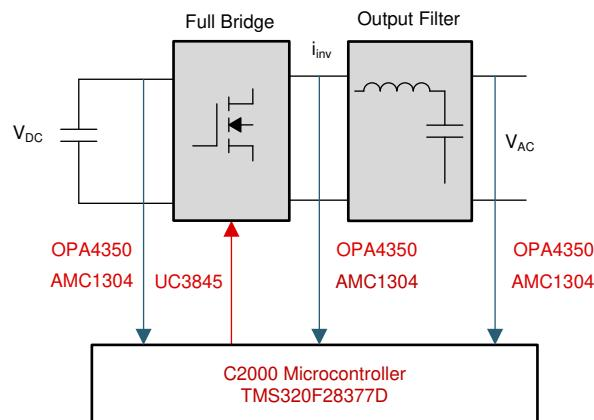

図 1. Typical Single Phase Inverter
A typical inverter comprises of a full bridge that is constructed with four switches, which can be modulated using pulse width modulation (PWM), and a filter for the high-frequency switching of the bridge, as shown in 図 1. An inductor capacitor (LC) output filter is used on this reference design.